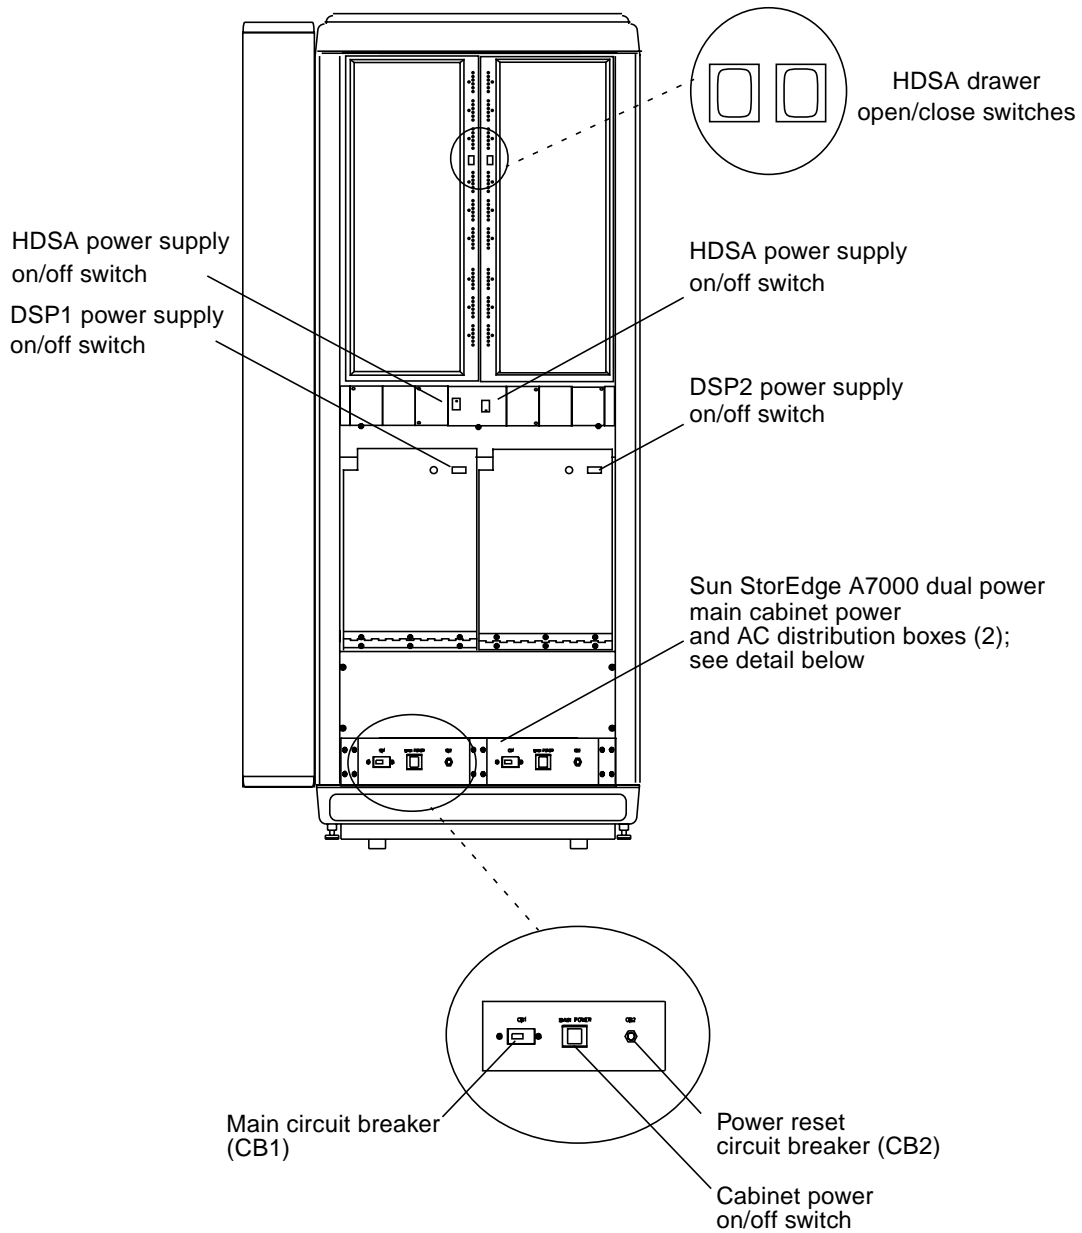

FIGURE 7-6 View of Cabinet Front; Power Switches
1. **At the left AC distribution box, throw the main circuit breaker switch CB1 to the right (ON). See FIGURE 7-6.**